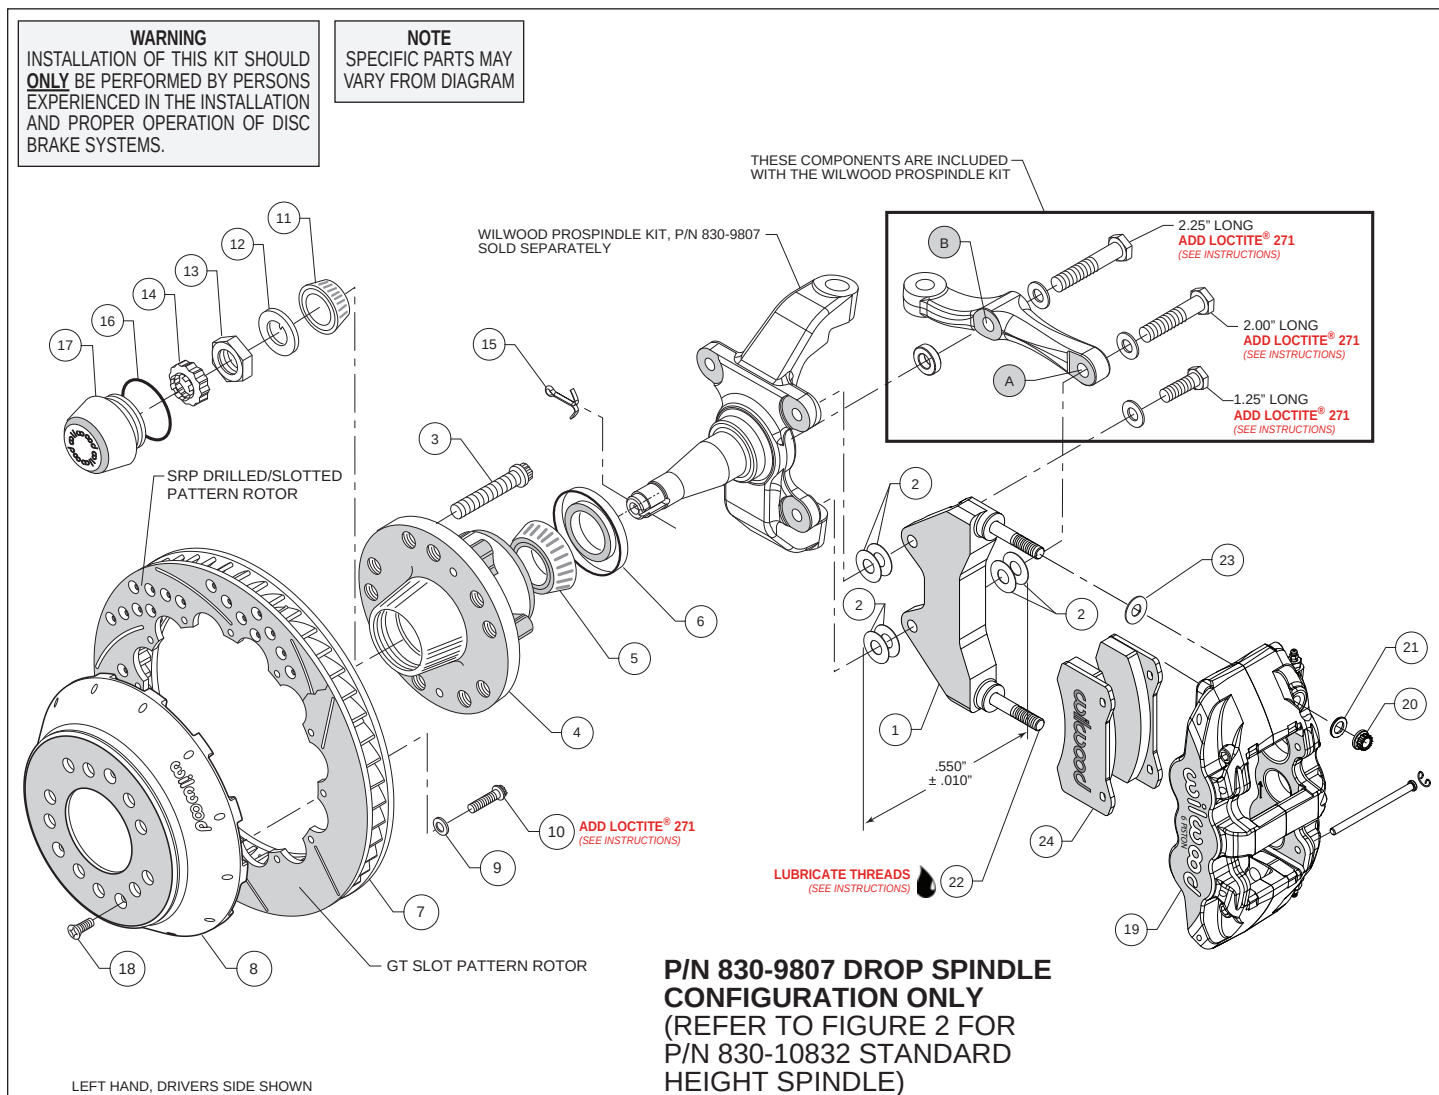
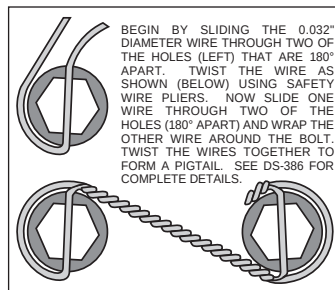

Figure 1. Installation Configuration For Drop Spindle, P/N 830-9807
Figure 4. Safety Wire Diagram
Assembly Instructions (numbers in parenthesis refer to the parts list and Figures 1 and 2 on the preceding pages):
- NOTE:** Each Wilwood ProSpindle kit includes bolts, washers, and a spacer to mount the steering arm and caliper bracket. The various bolts are identified by length in the following instructions and in Figures 1 and 2.
- Orient the bracket as shown in Figure 1 and Photo 1. Install at top spindle hole using 1.25" long bolt and .06" thick washer (from ProSpindle kit), and two .016" thick shims (2) between the bracket and spindle, Figure 1.
- Orient the steering arm, and identify the hole marked 'A', as shown in Figure 1. Install at bottom spindle hole using 2.00" long bolt, .06" thick washer (from ProSpindle kit), two .016" thick shims (2) between the steering arm and the bracket, and another two .016" thick shims (2) between the bracket and spindle, Figure 1. The bracket is located between the steering arm and spindle. **NOTE:** The bracket and shim washers must add up to a total thickness of .550" $\pm$.010", Figure 1.
- Finish attaching the steering arm through the hole marked 'B', as shown in Figure 1. Install using 2.25" long bolt, .06" thick washer, and .25" thick spacer (all from ProSpindle kit), Figure 1.
- Screw dust cap (17) into hub (4). Friction created by the o-ring (16) on the dust cap keeps it from unscrewing.
- Orient the rotor (7) and the hat (8) as shown in Figures 1 or 2, and Photo 6. Attach rotor to hat using bolts (10) and washers (9). Using an alternating sequence, apply red *Loctite*® 271 to the threads, and torque to 155 **in-lbs**. For an added measure of security, the bolts may be safety wired using standard 0.032 inch diameter stainless steel safety wire as shown in Figure 4. Refer to Wilwood's data sheet DS-386 (available at www.wilwood.com/Pdf/DataSheets/ds386.pdf) for complete safety wire installation instructions.
- NOTE:** This kit contains distinct right and left hand calipers that must be mounted in a specific direction, as described below. Lubricate the caliper mounting studs (22) with lightweight oil. Initially place one .030" thick shim (23) on each stud as shown in Figure 1 or 2, and Photo 7. Mount the caliper (19) onto the bracket (1) using lock nuts (20) and washers (21), Figure 1 or 2. Ensure that the caliper is mounted so the largest pistons are at the rotor exit end of the caliper, in relation to the direction of rotor rotation. Temporarily tighten the lock nuts. View the rotor through the top opening of the caliper. The rotor should be centered in the caliper, Photo 8. If not, proceed as follows:
- For the lower bracket mount bolt, if a shim was added between the bracket and spindle, then a shim must be removed between the steering arm and bracket, such that the total thickness of bracket and shims remain equal to $.550 \pm .010$ ", Figure 1.
- Adjust by adding or subtracting shims (2) between the bracket and the spindle. Always use the same amount of shims on each of the two mounting bolts.
- Remove the caliper (19), then remove the two pad retaining pins by carefully popping out the pin retaining clips and sliding out the pins. Insert the brake pads (24) into the caliper from the bottom, Figure 1 or 2, and Photo 9. With the friction material facing the rotor, secure the brake pads in place with the pad retaining pins and clips, Photo 10. Reinstall the caliper onto the caliper mounting bracket and temporarily tighten the lock nuts. Check that the top of the brake pad is flush with the outside diameter of the rotor, Photo 11. If not, adjust by adding or subtracting shims (23) between the caliper and the bracket. After the caliper pad height is set, torque the caliper lock nuts (20) to 47 ft-lb.